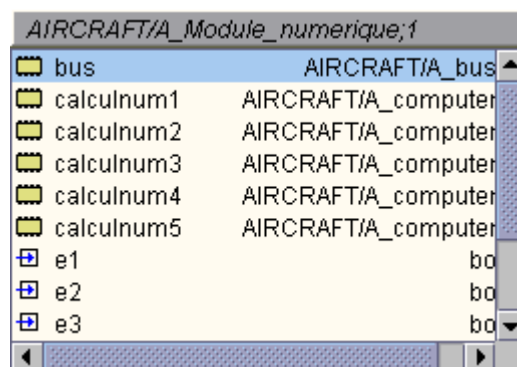

Figure 109 : Altarica Code – Variables selector
- ♦ Use the shortcut **Ctrl+<SPACE>** to open the Variable Selector (Figure 109),